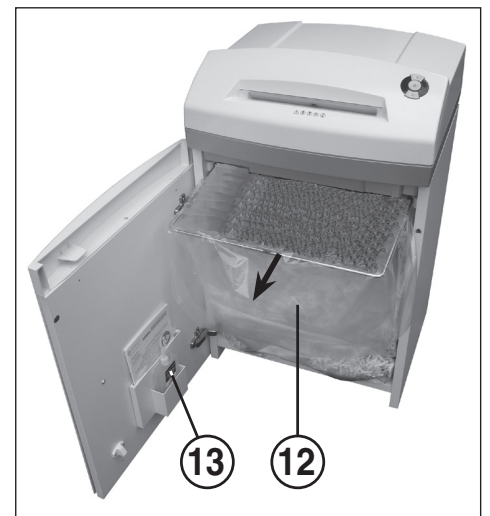

fig. 4
12 = Paper collection bag (Fig. 4)
13 = Oil reservoir (Fig. 4)
EMPTYING THE PAPER COLLECTION BAG (Fig. 4):
Open the door. The control display (8) comes on and the reverse button (4) LED display as well as the control display (7) **flashes**. Remove the oil reservoir (13) (Fig. 4) from the holder in the door and close the door again.